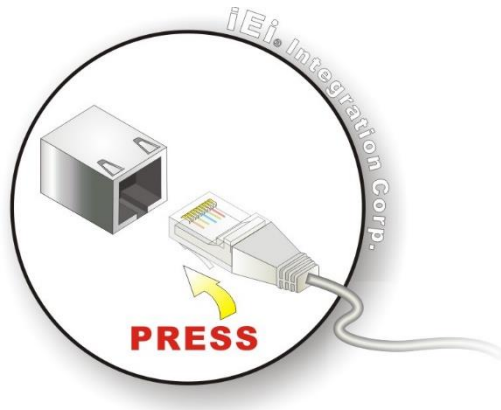

Figure 3-17: LAN Connection
Step 2: Align the connectors. Align the RJ-45 connector on the LAN cable with one of the RJ-45 connectors on the DRPC-W-ASL Series (**Figure 3-17**).